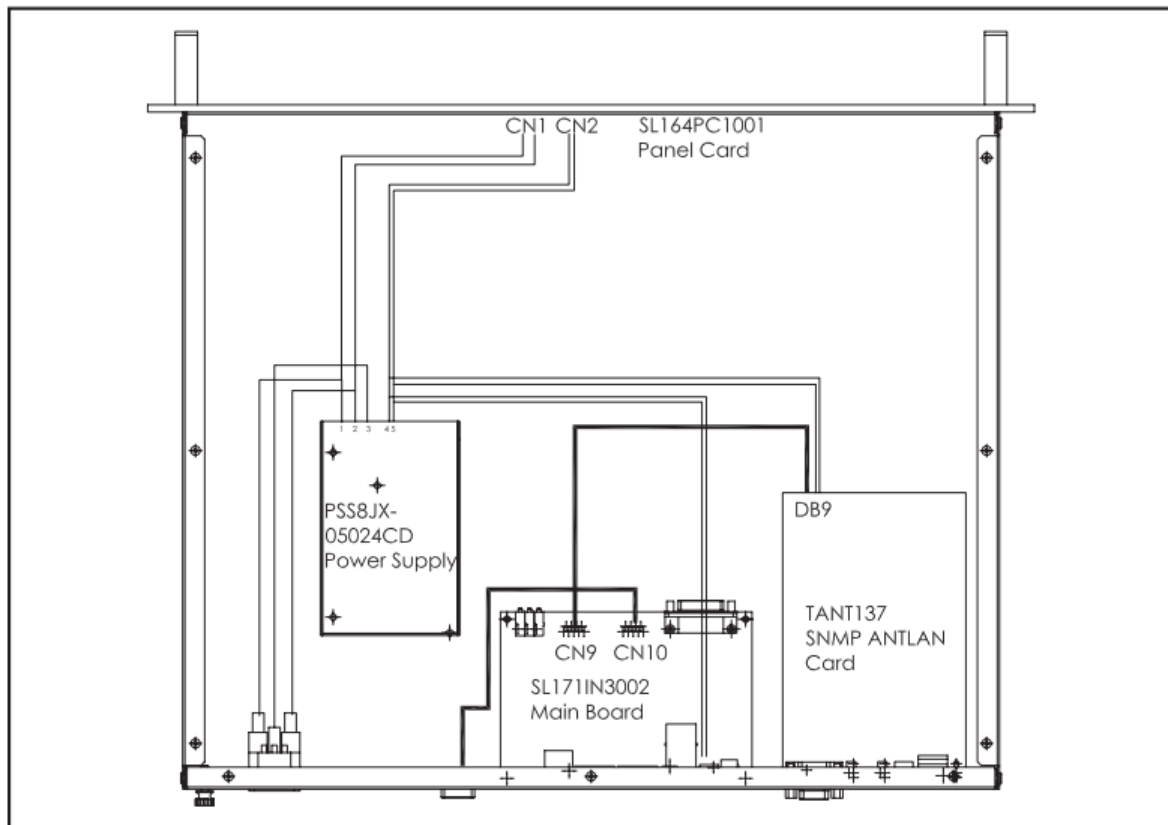

Figure 8.1
- A schematic view of the modules and connections making up the TELINK-SNMP1 with the telemetry board is shown in figure 8.1.